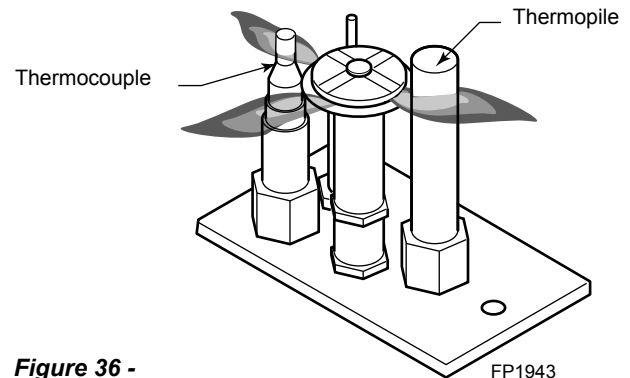

Figure 36 -
1. Check pilot flame. Flame should touch approximately 3/8" of the top of thermopile and touch top of thermocouple. *Figure 36*. If not, contact dealer for service.